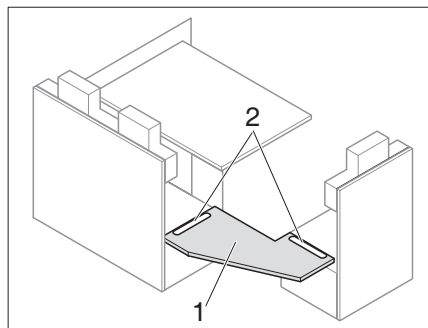
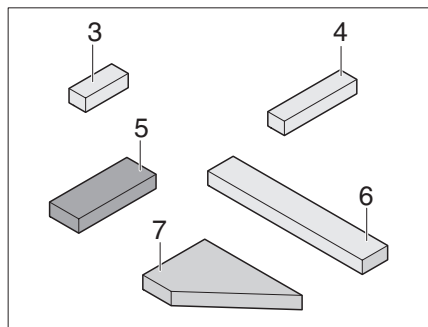
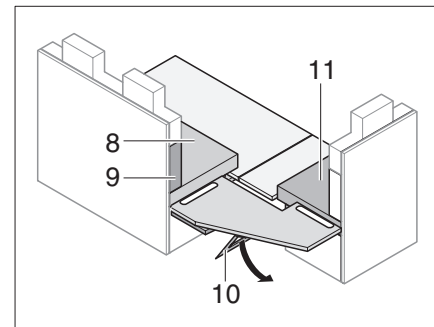
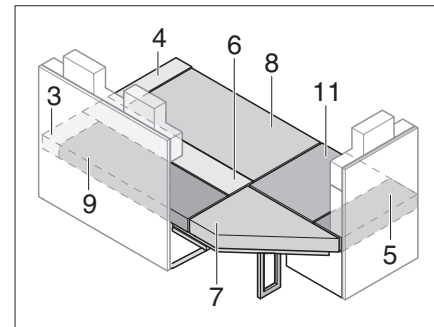

Fig. 110 Inserting the reinforcement panel
Fig. 111 Additional cushion
Fig. 112 Support reinforcement plate
Fig. 113 After conversion
- Insert reinforcement plate (Fig. 110,1) into the slots (Fig. 110,2).
- Fold out the support (Fig. 112,10) under the reinforcement panel (Fig. 110,1).
- Place seat, back, and additional cushions as shown in Fig. 113 (the position numbers refer to Fig. 111 and Fig. 112).